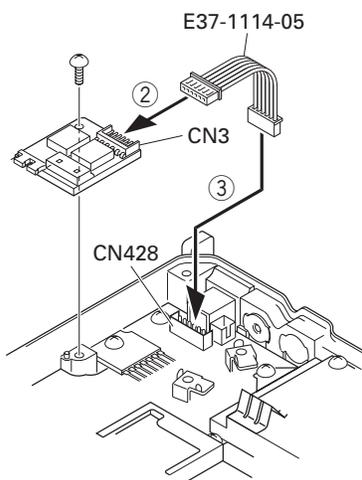

Fig. 3-2
3. Remove the 6-pin jumper connector inserted in the TX-RX unit (B/3) connector (CN428). ( ① )
4. Insert one side of the lead wire with connector (E37-1114-05) into the relay unit connector (CN3) ( ② ) and the other side into the TX-RX unit (B/3) connector (CN428) ( ③ ).
5. Place the relay unit at the position shown in Figure 3-2 and secure it to the chassis with a screw.
6. Remove the cap on the rear of the chassis by pushing it from the inside with your finger. ( ④ )
7. Pass the 6-pin connector of the cable (E37-1113-05) through the chassis hole ( ⑤ ) and insert the bush into the chassis hole.
8. Rotate the bush of the cable 90 degrees counterclockwise as viewed from the rear of the chassis. ( ⑥ )
9. Insert the 6-pin connector of the cable into the connector (CN2) of the KAP-2 relay unit. ( ⑦ )